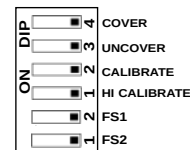

Figure 6: DIP Switch
1. Ensure that all DIP switches are in OPEN position as shown in Figure 6. Make sure that STATUS LED is not blinking for Error.
- Ensure that all DIP switches are in OPEN position as shown in Figure 6. Make sure that STATUS LED is not blinking for Error.